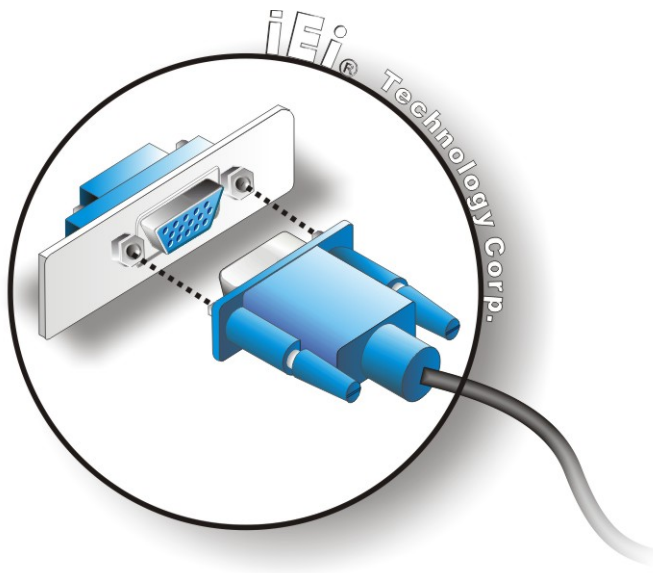

Figure 4-16: VGA Connector
- Step 3: Insert the VGA connector.** Once the connectors are properly aligned with the insert the male connector from the VGA screen into the female connector on the KINO-AH611. See **Figure 4-16**.